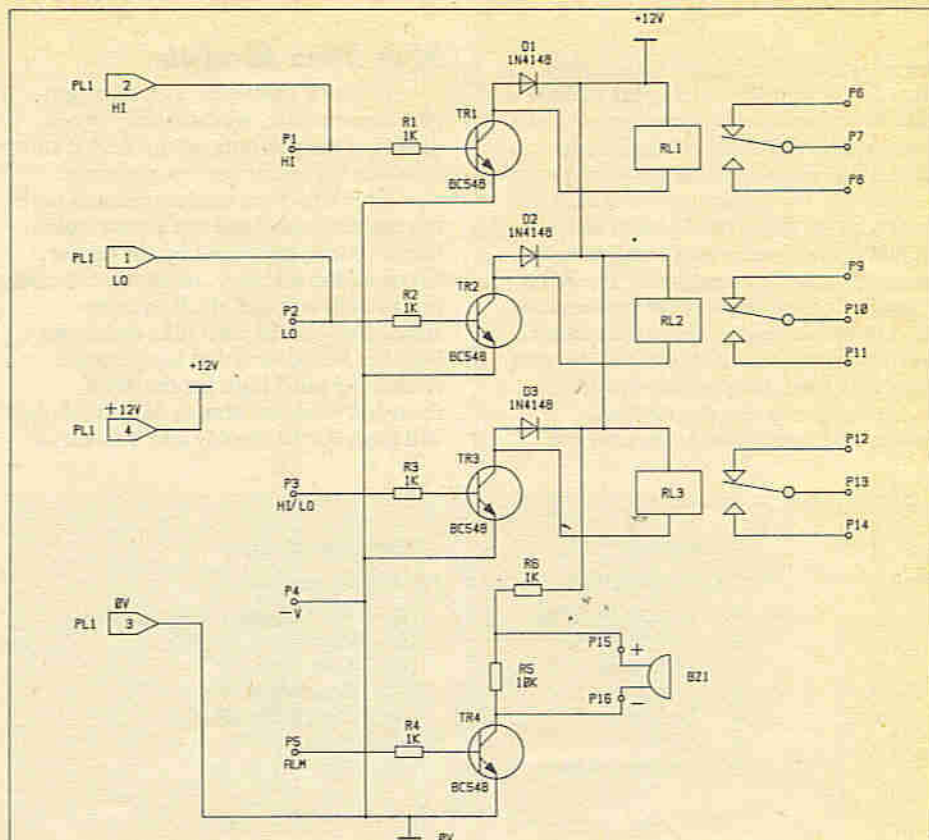
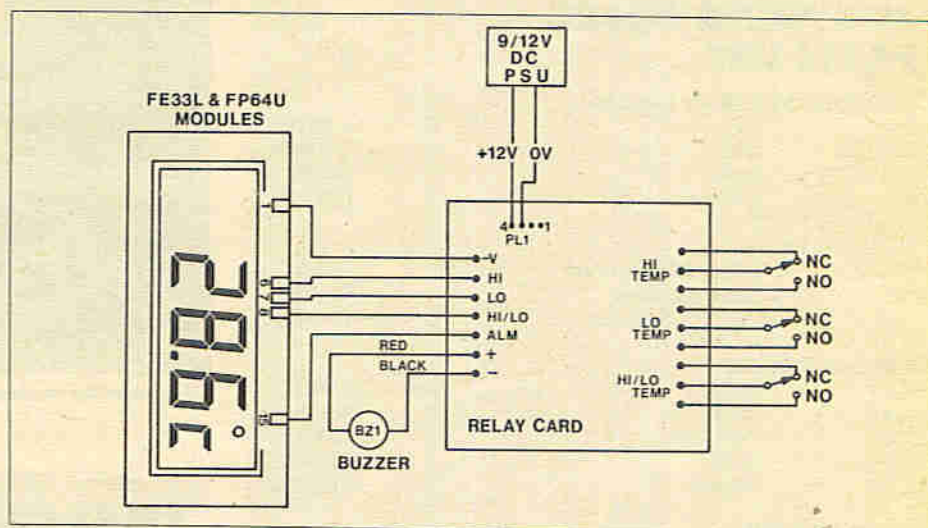

Figure 9. Relay Card Circuit.
Figure 11. Connections to Relay Card.
Figure 9 shows the circuit diagram of the Relay Switch Card. The card may be used with either FE33L or FP64U modules and pin connections are the same for both (see Figure 11). Transistors TR1 to 3 are low level buffer inputs with a relay as the collector load. Relay RL1 is operated from the high set point output on a temperature module, RL2 operates from the low set point output and RL3 operates from the combined high/low output. TR4 is pulsed from the alarm signal output at either 2kHz or 4kHz, depending on which temperature module is being used, and drives the piezo transducer BZ1. The transducer being ceramic, requires a voltage source to operate it. R6 and R5 form a potential divider in the collector load and the signal voltage drop across R5 drives the transducer. The relay contacts are "dry" changeover type where the moving contact is common (C), the normally closed contact is NC and the normally open contact is NO.
Wire the card as in Figure 11 and if using the piezo buzzer, connect the black lead to pin 18, marked minus, and the red lead to pin 15 marked plus. Mount BZ1 on top of the relays using a quickstick pad. Connect a 9/12V DC power supply to PL1, with positive to PL1 pin 4 and 0V to PL1 pin 3. Switch on the supply and follow the procedure for setting the high and low set points. Have available a tin of freezer spray and also a soldering iron as they are both ideal for lowering and raising the temperature below or above the set points. Place the hot iron close to - but not on - the sensor and as the temperature reaches the high set point, RL1 and